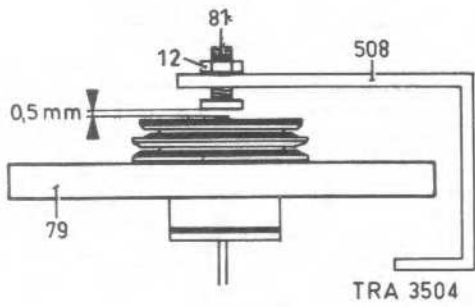
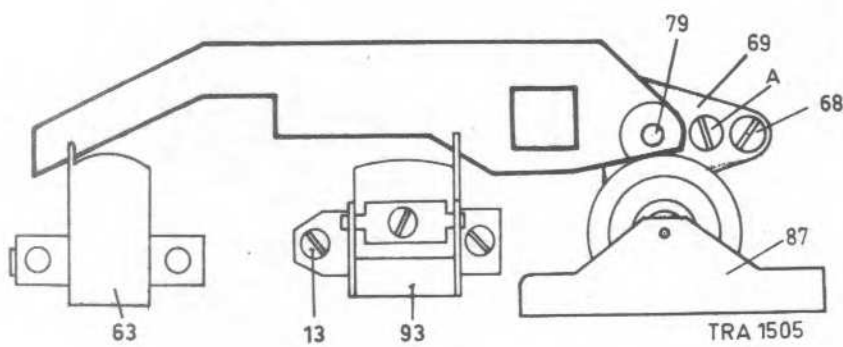

Fig. 2
Fig. 4
- Bracket item 73, which blocks ejection button item 94, should release this button completely in position "stop", "rewind" and "forward". (This can be adjusted by bending bracket item 73.)
- Check: Bracket item 73 should release the ejection button when the playback head and the erase head are completely out of the cassette.
Adjusting flywheel thrust bearing item 81 (Fig. 2)
- In this position the clearance between the bottom of the capstan and bearing item 81 should be 0.5 mm.
- This can be adjusted by moving the bearing further inwards or outwards and locking it again with nut item 12.
Adjusting capstan bearing item 69 (Fig. 4)
- The jig should then fit exactly into the guides of the erase head (see Fig. 4).
- If this is not the case, the capstan can be aligned by turning screw A (see Fig. 4) slightly further in or out.
Adjusting playback head K401/501, item 93 (Fig. 4)
- Adjust playback head item 93 by means of screw item 13 (see Fig. 4) so that the maximum output voltage is measured.